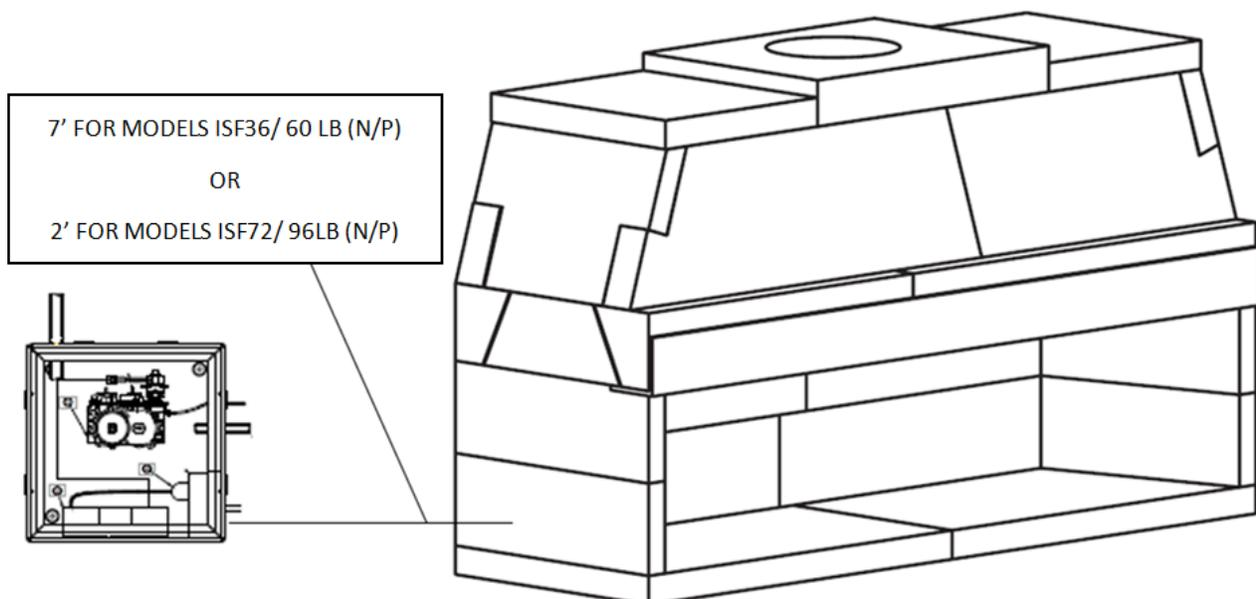

FIGURE 41
- 1) The valve control box comes with an 110" pilot assembly lead; therefore, the box must be mounted within 7' of the fireplace for models ISF36/60LB and within 2' for models ISF72/96LB. **(Figure 41)**. This location should be within 4' (48") of the Meridian Control Panel.